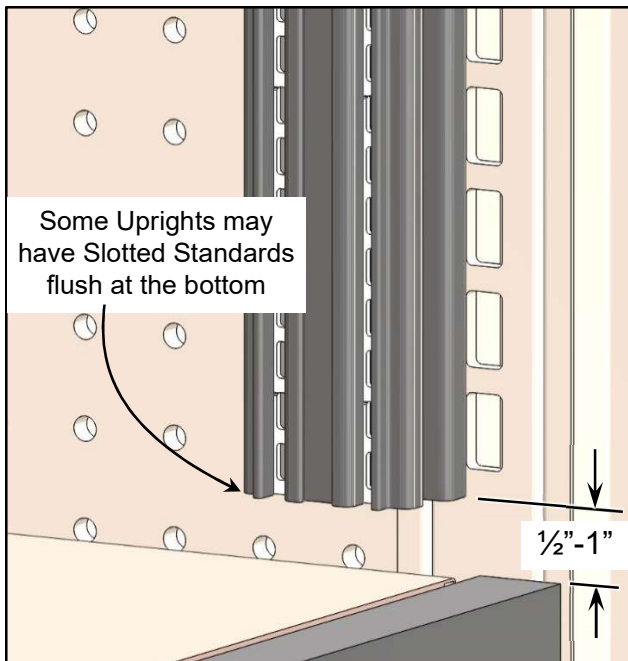

Figure 2
1. Hang one Upright on the Crossbars. Confirm the bottom of the Uprights are  $\frac{1}{2}$ "-1" above the Gondola Base Deck. (See Figures 2 & 3).